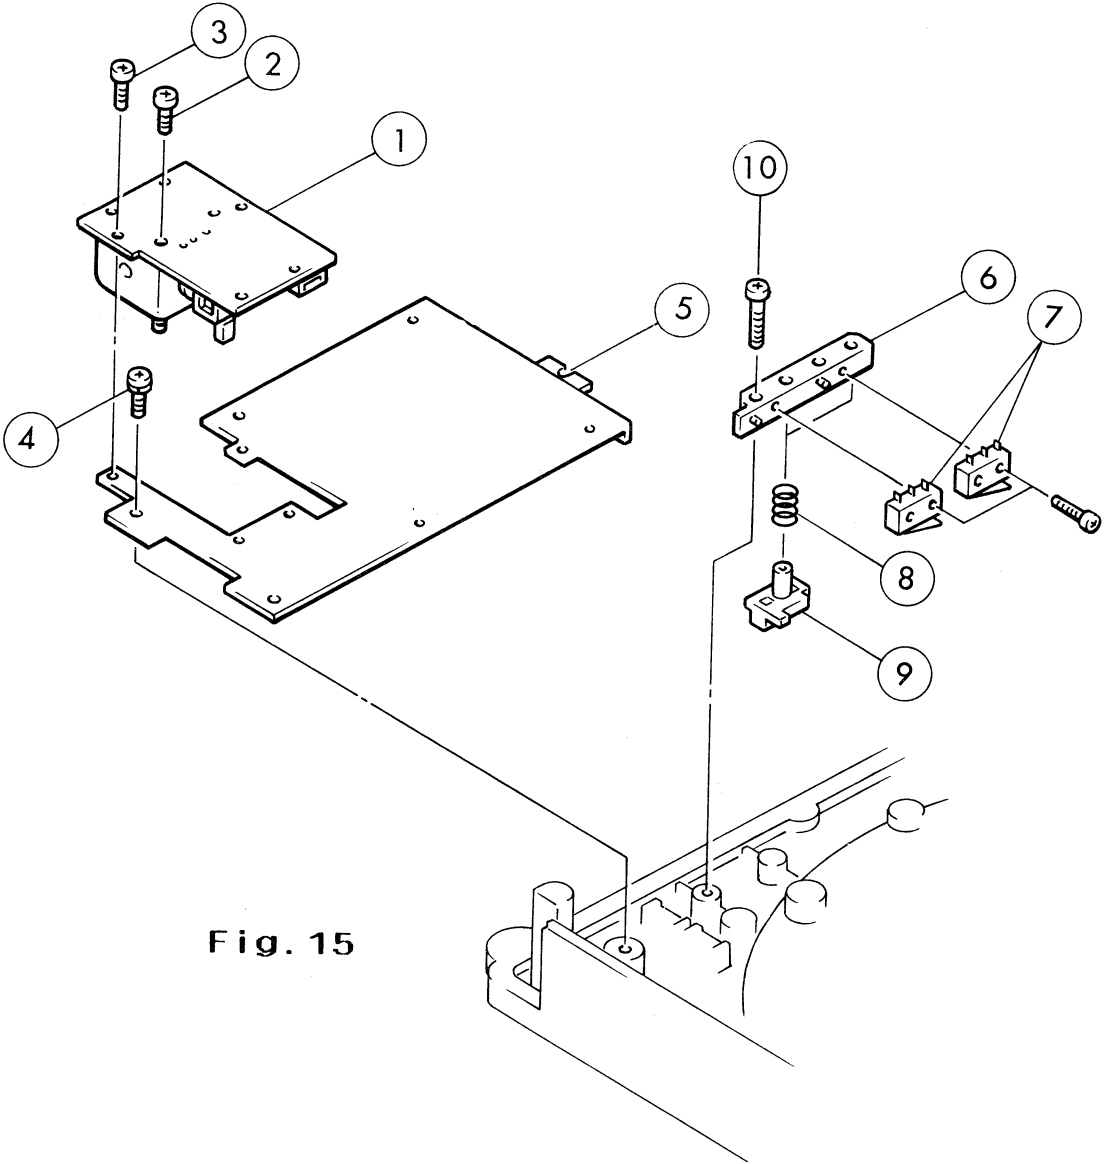

Fig. 15
IV — 10 Knob Transport Section and PC Plate Assy Stick Controller (See Fig. 15)
1. Unscrew ③ to remove ①.
2. Unscrew ⑩ to remove ⑥ from the main body.
3. See Fig. 15 for further disassembly.